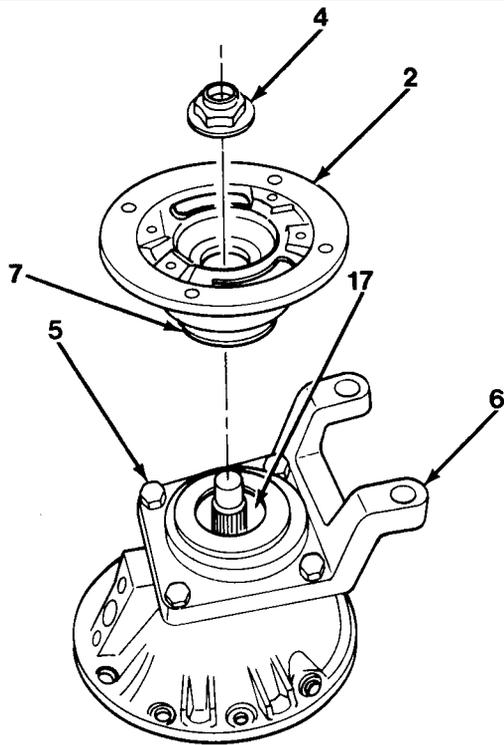

Figure 12-2
- (1) Remove pinion nut (4) and input yoke and disc (2, Figure 12-2).
- i. Lubricate and install new input yoke seal (17) flush.
- j. Install input yoke and disc (2) and new pinion nut (4). Torque pinion nut (4) to 405 to 433 lb-ft (549 to 587 N•m).
- k. Stake pinion nut (4) in two locations, 180 degrees apart.